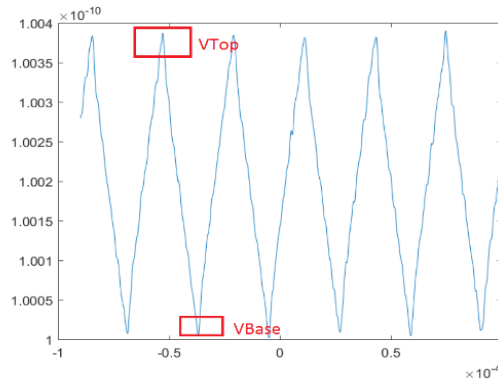

Figure 18  $V_{top}$  and  $V_{base}$  measurements on an SSC triangle profile
- b Measure the  $V_{top}$  and  $V_{base}$  for every SSC triangle profile, as shown in Figure 18.